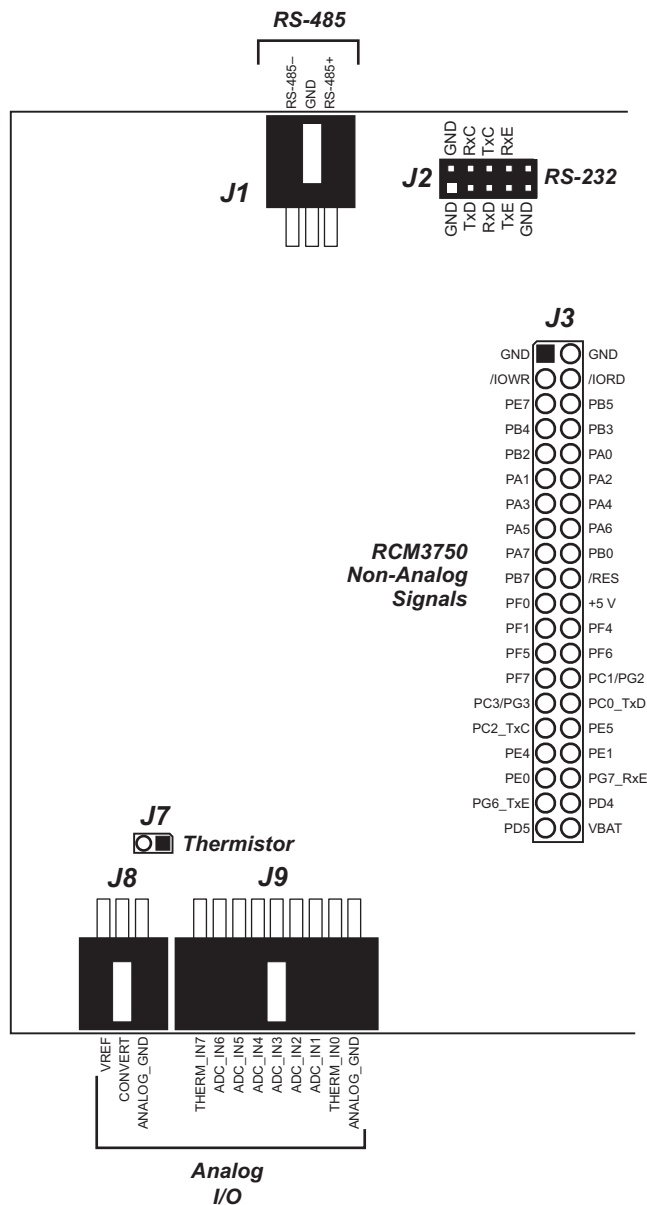

Figure B-4. RCM3700 Prototyping Board Pinout
- **Module Extension Headers**—The complete non-analog pin set of the RCM3750 module is duplicated at header J3. Developers can solder wires directly into the appropriate holes, or, for more flexible development, a 2 × 20 header strip with a 0.1" pitch can be soldered into place. See Figure B-4 for the header pinouts.
- **Analog I/O Shrouded Headers**—The complete analog pin set of the RCM3750 Prototyping Board is available on shrouded headers J8 and J9. See Figure B-4 for the header pinouts.
Figure B-4 shows the RCM3700 Prototyping Board pinouts.
Analog input THERM_IN7 on the Prototyping Board was designed specifically for use with a thermistor in conjunction with the **THERMISTOR.C** sample program, which demonstrates how to use analog input THERM_IN7 to calculate temperature for display to the Dynamic C **STDIO** window. The sample program is targeted specifically for the thermistor included with the Development Kit with $R_0 @ 25^\circ\text{C} = 3 \text{ k}\Omega$ and $\beta 25/85 = 3965$. Be sure to use the applicable R_0 and β values for your thermistor if you use another thermistor. Install the thermistor at location J7, which is shown in Figure B-4.